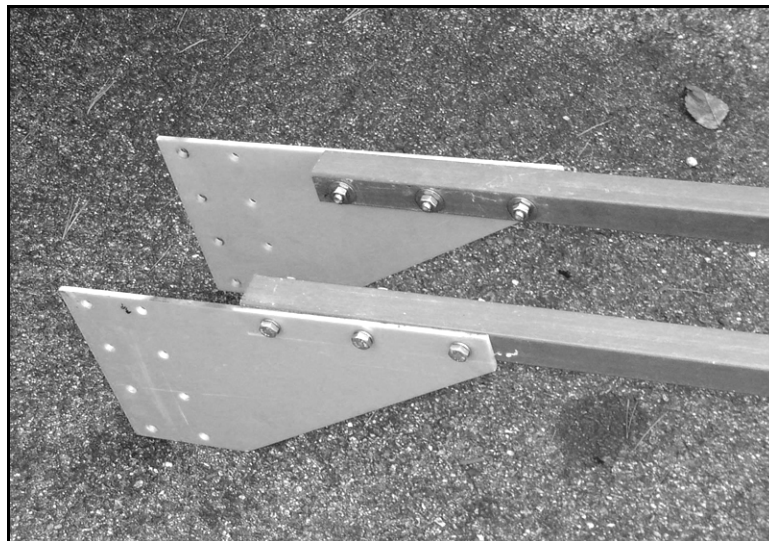

Figure 5: Gussets attached to rails
Step 3: Attach the fiberglass rails to the horn antenna and the fiberglass gusset plates to the rails (Figure 5). The rails and the gussets were included with your horn antenna assembly. A detailed description of this procedure can be found in the GSSI Handbook for Road Structures.